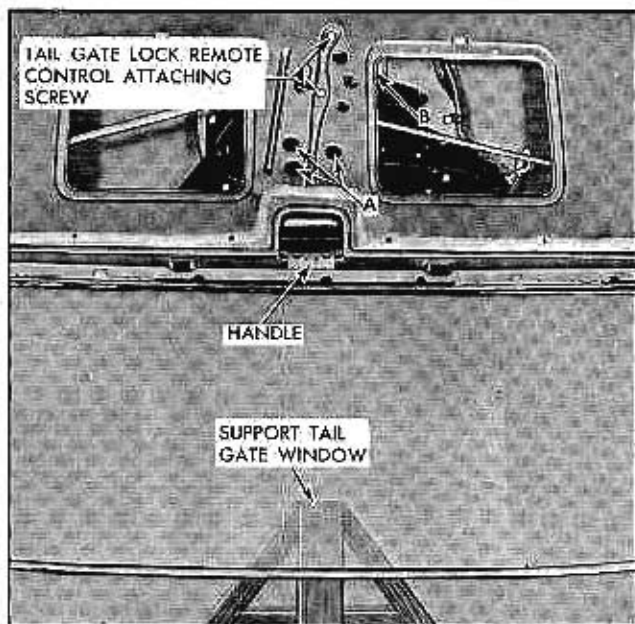

Fig. 4-25 Outside Lock and Remote Control—Removal
2. Loosen tail gate lock remote control attaching screws (Fig. 4-25) and move remote control towards bottom of tail gate sufficiently to disengage end of handle push rod from hole in remote control lever.
3. Remove handle attaching screws located under handle (Fig. 4-25) and remove handle assembly (includes push rod) from tail gate.
3. Remove tail gate lock remote control attaching screws (Fig. 4-25). Disengage remote control from inside handle push rod and remove remote control from tail gate.
4. Check operation of tail gate locking mechanism. To open tail gate when window assembly is removed, depress tail gate lock remote control locking lever at location B (Fig. 4-25) and at the same time operate the tail gate remote control inside handle.